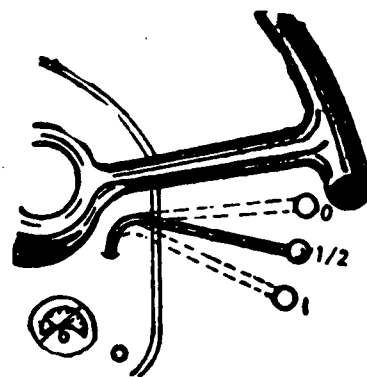

Fig. 4
- e) Place the throttle at the centre of its total possible travel (Fig. 4).